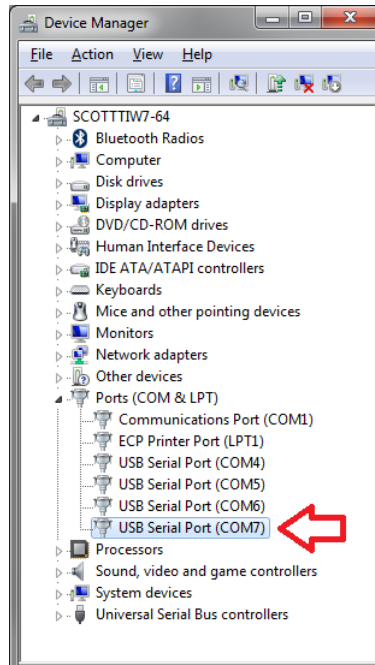

Figure 8. Windows® 7 Device Manager with chamber COM Ports Highlighted
- c. Expand **Ports (COM & LPT)** and look for a series of 4 ports named **USB Serial Port** as shown in Figure 8. Note the highest COM port number in the series of 4. This may be required by supported Instron software.